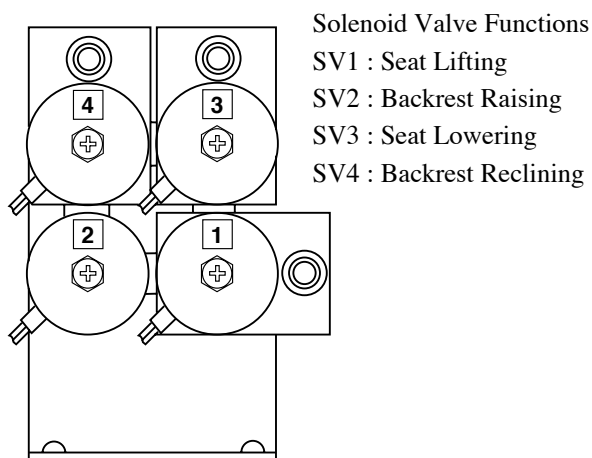

Fig.4-1-1 Solenoid Valve Numbers and Functions
4. SPEED ADJUSTMENT FOR CHAIR (Fig.4-1-1 and Fig.4-1-2)
Solenoid valve numbers and functions are shown in (Fig.4-1-1).